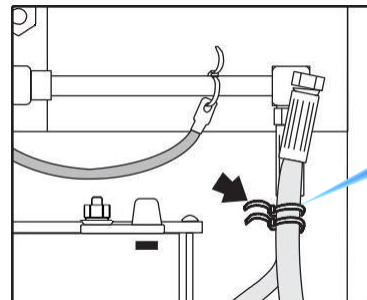

Figure 18
2. Clip the two tie-wraps that secure the hydraulic line inside the electrical control box (Figure 18).